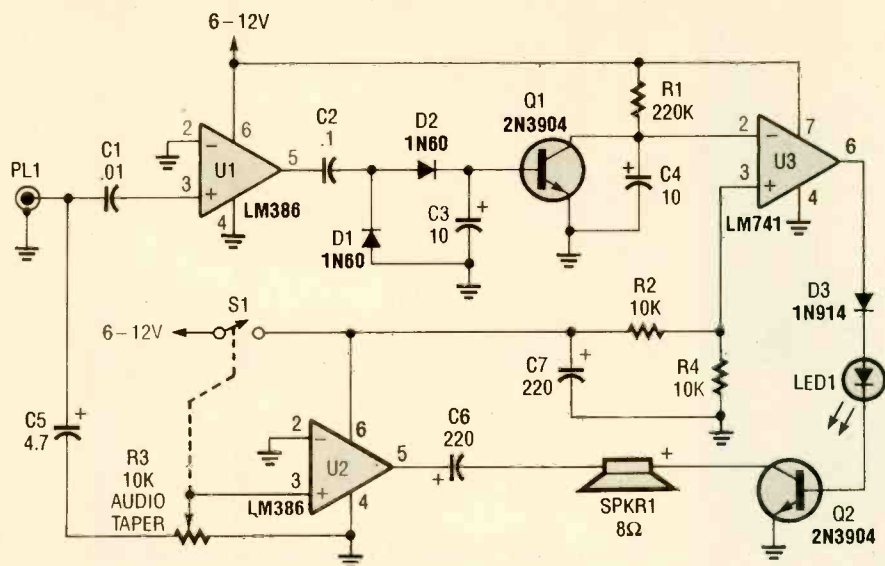

Fig. 1. The Scanner Companion consists of two LM386 low-power audio amplifiers, an LM741 op-amp, a couple of transistors, and a few additional components.
**How It Works.** A schematic diagram of the *Scanner Companion*—which consists of two LM386 low-power audio amplifiers, an LM741 op-amp, a couple of transistors, and a few additional components—is shown in Fig. 1.